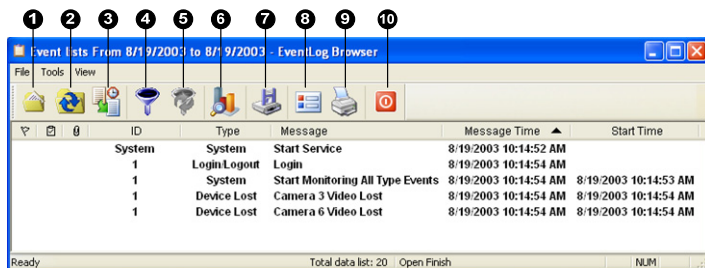

Figure 1-38
4. To print out the alarm reports along with the search results, click the **Page Setup** button (No.8, Figure 1-38), select **Print Managing Alarm Report** and click **OK**.
5. Click the **Print** button (No. 9, Figure 1-38). Find the alarm reports in the last part of the printouts.
Click the **Open** button (No. 1, Figure 1-38) to launch the following Open Database dialog box. Define a time period and select the type of database. If you want to open the logs created by the system, select **System Log**; if you want to open the logs you have backed up in a local drive or CD/DVD, select **Backup Log**. Then assign the log path. After clicking **OK**, the events matching the search criteria will be loaded to the Event Log Browser.
You can filter log events on the defined criteria. Click the **Filter** button (No. 4, Figure 1-38) to bring up the Filter window.
1. On the Event Log Browser, click the **Backup** button (No.7, Figure 1-38). This dialog box appears.
- **Auto Import:** Specify the number of days for which the logs will be loaded to the Event List at the bottom of the Center V2 window (Figure 1-1) and the Event Log Browser (Figure 1-38).
1. On the Event Log Browser, click the **Page Setup** button (No. 8, Figure 1-38) to display this dialog box.
4. Click the **Print** button (No.9, Figure 1-38) to start.